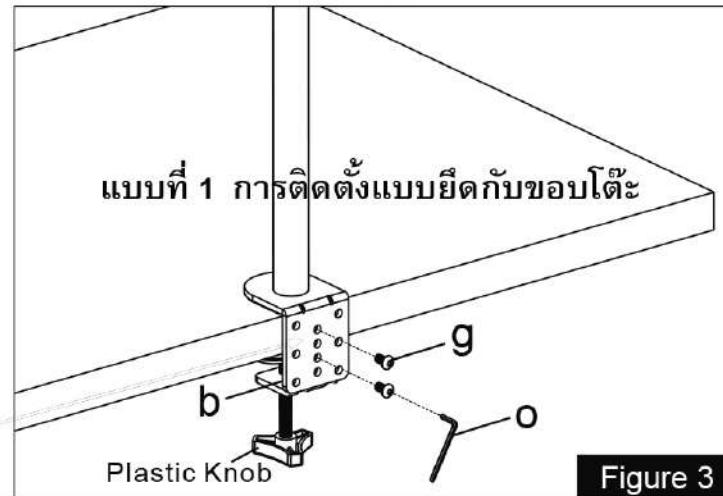

Figure 3
3. Install the "C" Clamp(b) to the pole assembly according to the thickness of the desktop. The thickness can be changed to three positions. Connect it using 2pcs M8x12 Bolts(g), and tighten using the Allen Key(o). Tighten the "C" Clamp to the desktop using the plastic knob, see Figure 3.